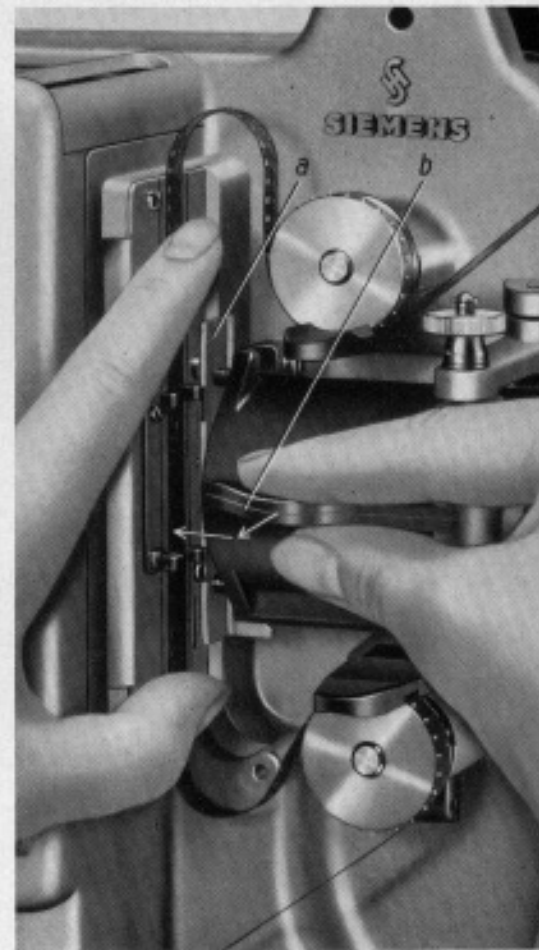

Fig. 19
6. Hold film in film channel with thumb and index finger of left hand below and above pressure plate a (Fig. 19) of lens holder. Pivot lens holder slightly away from housing in direction of arrow, and close film channel.